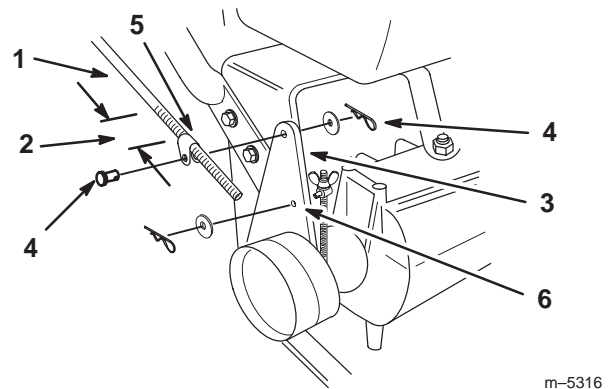

Figure 8
1. Make sure the rod fittings are equal distance onto each control rod. The rod fittings should be approximately 3-1/2 inch (89 mm) from the start of the threads (Fig. 8).
2. Slide clevis pins through rod fittings and mounting holes in idler brackets (from outside) (Fig. 8). Secure with washers and hairpin cotters (Fig. 8).